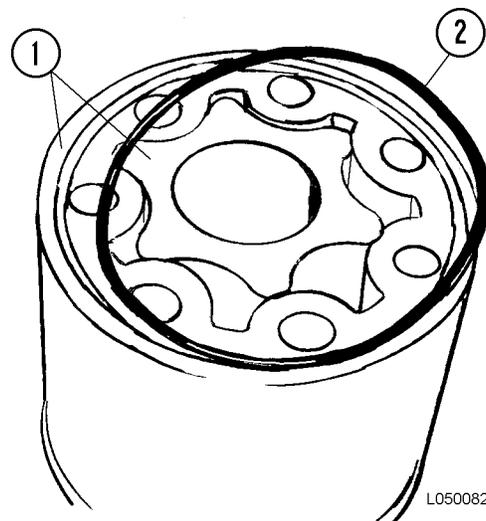
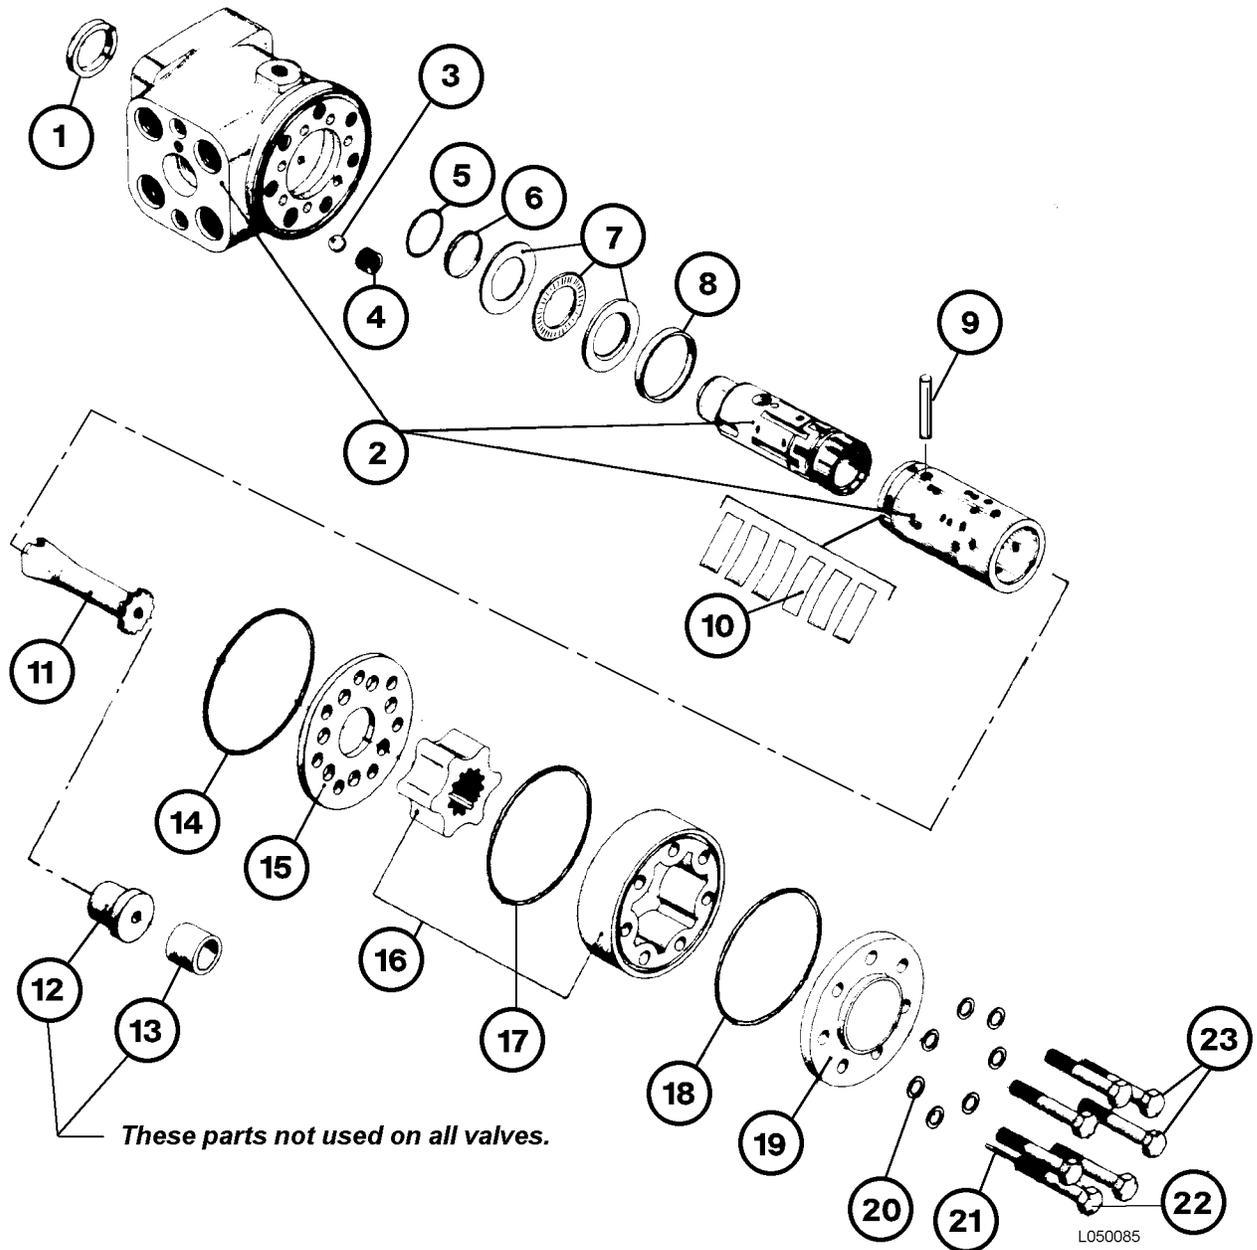

FIGURE 5-5. END COVER REMOVAL
FIGURE 5-7. STEERING CONTROL VALVE
4. Remove end cover (4) and O-ring (2, Figure 5-5).
5. Remove outer gear of gear wheel set (1) and O-ring between gear set and distribution plate.
7. Remove cardan shaft (11, Figure 5-7), distribution plate (15) and O-ring (14).
8. Remove threaded bushing (4) and ball (3).
5. Install the cross pin (9, Figure 5-7).
7. Place the dust seal (1, Figure 5-7) in position. Using a flat iron block over the seal, tap into position.
11. Grease the housing O-ring (3) with Vaseline and install in the housing groove.
12. Install the distribution plate (15, Figure 5-7) with plate holes matching the corresponding holes in the housing.